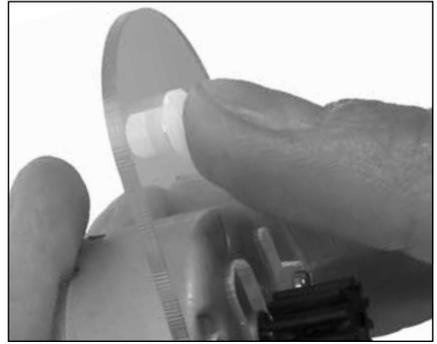

Figure 3
4. At the top of Part B, push a nylon axle bushing into the small hole. Do this so the flat side of the bushing is on the same side as the pinion gear (Figure 3 on the next page). Set aside the motor assembly.